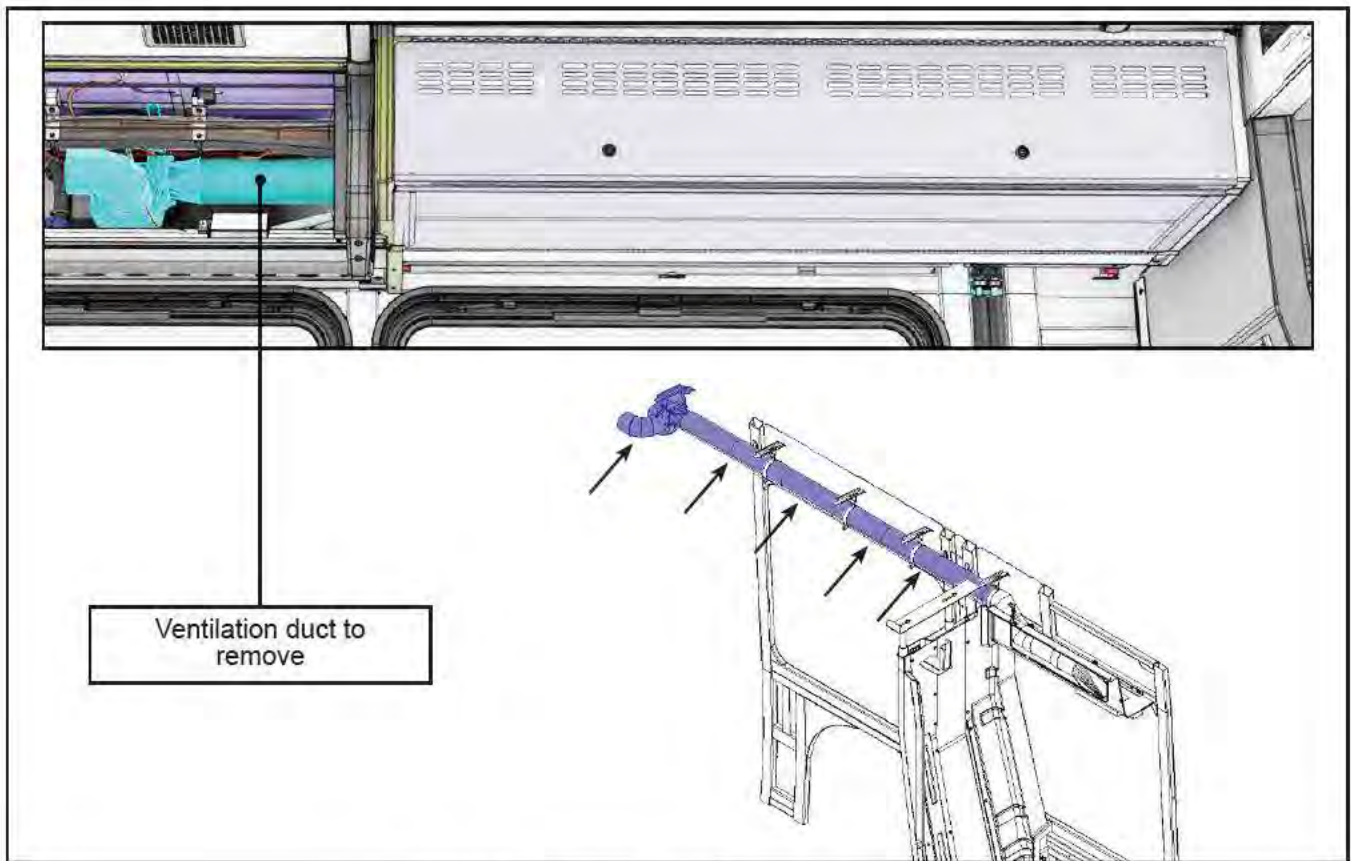

Figure 5 - Ventilation Duct to Remove (Typical)
- 1.17. Remove the ventilation duct (Figure 5).